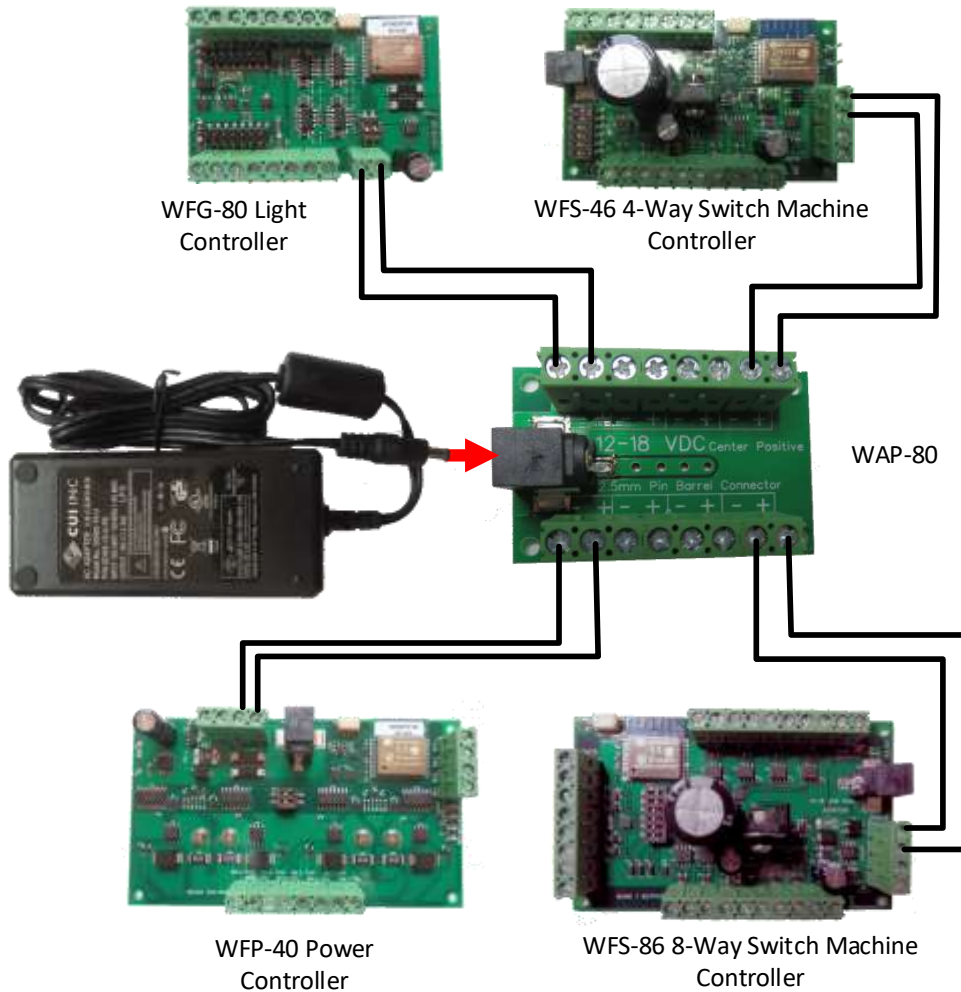

Figure 2. Typical WAP-80 Usage Connections
- (5) Mount all of the modules in a suitable location and mount the WAP-80 nearby using the four M3 metric screws, nuts and spacers provided. Note that the screws or spacers may contact the power connections, so mount the screws on an insulating baseboard or fascia board.
- (6) Connect pairs of power wires - black and red insulated (13 x 0.12mm stranded as a minimum) between the outputs of the WAP-80 and the power inputs of your controller modules Figure 2 shows the example mentioned earlier. **Double check that you have connected them to the correct screw terminals on the Wi-Fi Layout Controller Modules. Some modules may be damaged if power is connected incorrectly!**
- (7) Connect your mains adapter to the power jack on the WAP-80 and when you are ready turn on its power.